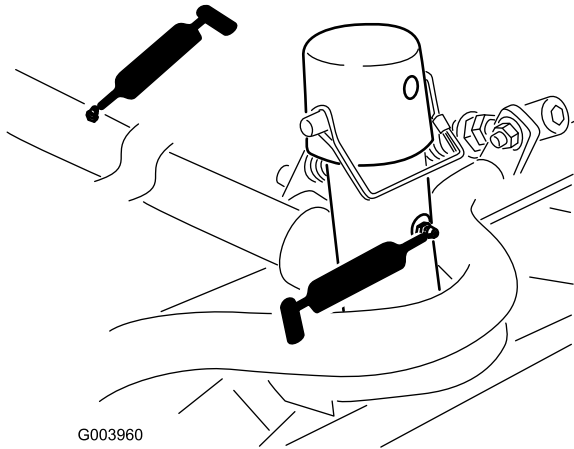

Figure 49
- Cutting-unit carrier-frame and pivot (2 each) (Figure 49)